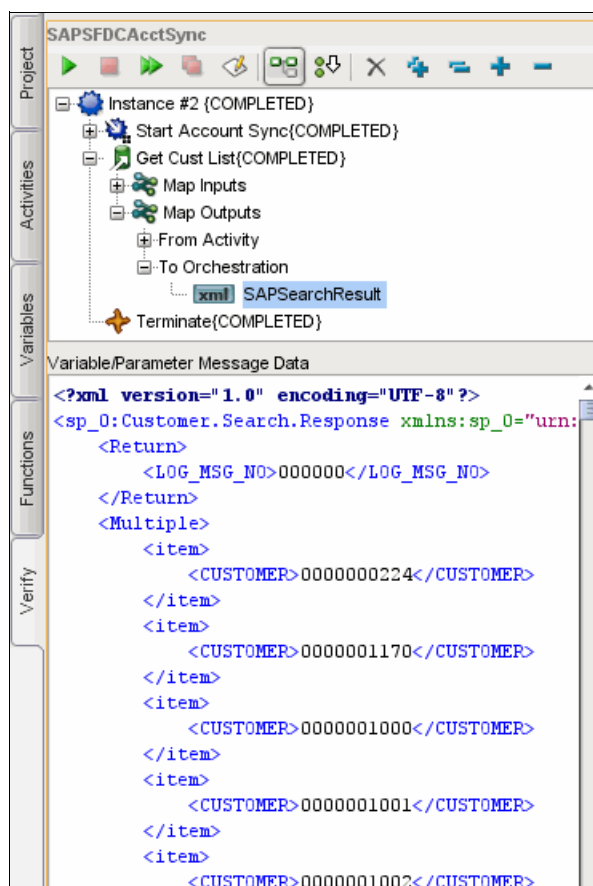

Figure 10-47 Customer list returned by SAP
4. Expand the instance tree to **Get Cust List** → **Map Outputs** → **To Orchestration**, and click the SAPSearchResult element to display the content of the element. The content is a list of customer numbers, shown in Figure 10-47. Depending on your SAP system, this list can be long.